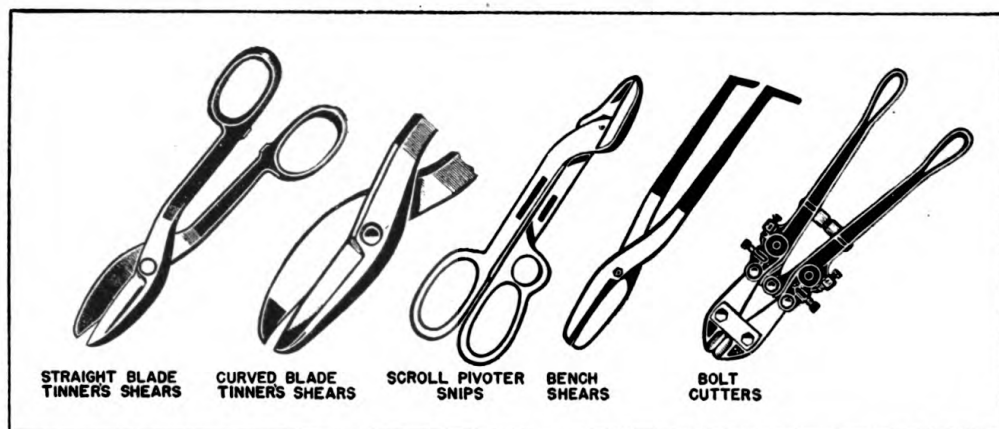

FIGURE 7.—Types of shears.
(1) *Shears.*—Shears are used for cutting sheet metal of various kinds and thicknesses. Figure 7 shows several commonly used types. Straight blade tinnery shears are used for making straight cuts. Shears with curved blades are convenient for making curved cuts.